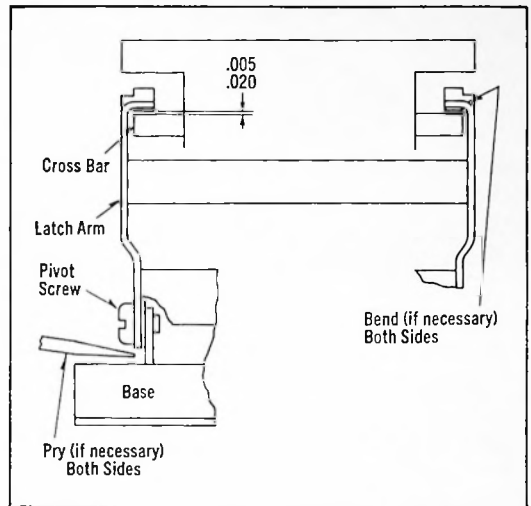

Figure 4 - Sizes 3 and 4
1. With the cross bar fully depressed, the clearance between the molded cross bar and the latching surface of both latch arms should be in accordance with Fig. 4.
2. If the clearance exceeds that specified in Fig. 4, the latch arms may be slightly bent at the upper bend as shown in Fig. 4.
3. If the latch clearance must be increased to permit proper latching, pry up slightly under pivot screws with a large screwdriver per Fig. 4.